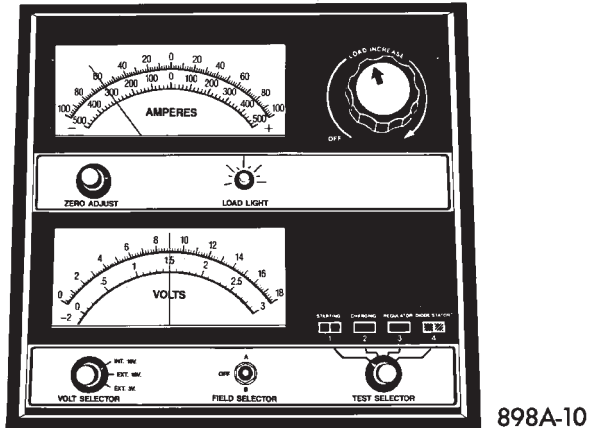
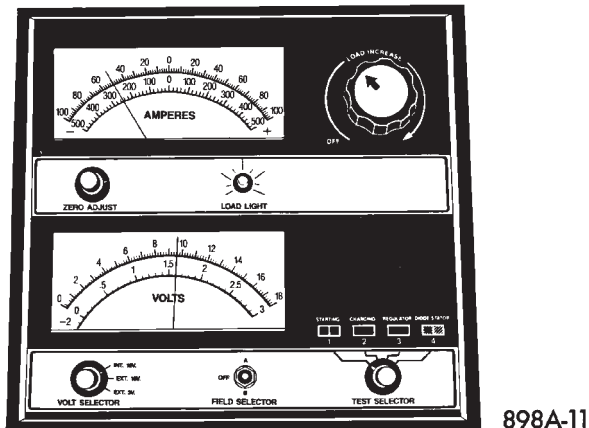

Fig. 11 Remove Surface Charge from Battery
Fig. 12 Load 50 Percent Cold Crank Rating
(3) Rotate the load control knob Carbon pile rheostat to apply a 300 amp load. Apply this load for 15 seconds to remove the surface charge from the battery, and return the control knob to off (Fig. 11).
(4) Allow the battery to stabilize for 15 seconds, and then verify open circuit voltage.
(5) Rotate the load control knob on the tester to maintain 50 percent of the battery cold crank rating for a minimum 15 seconds (Fig. 12).